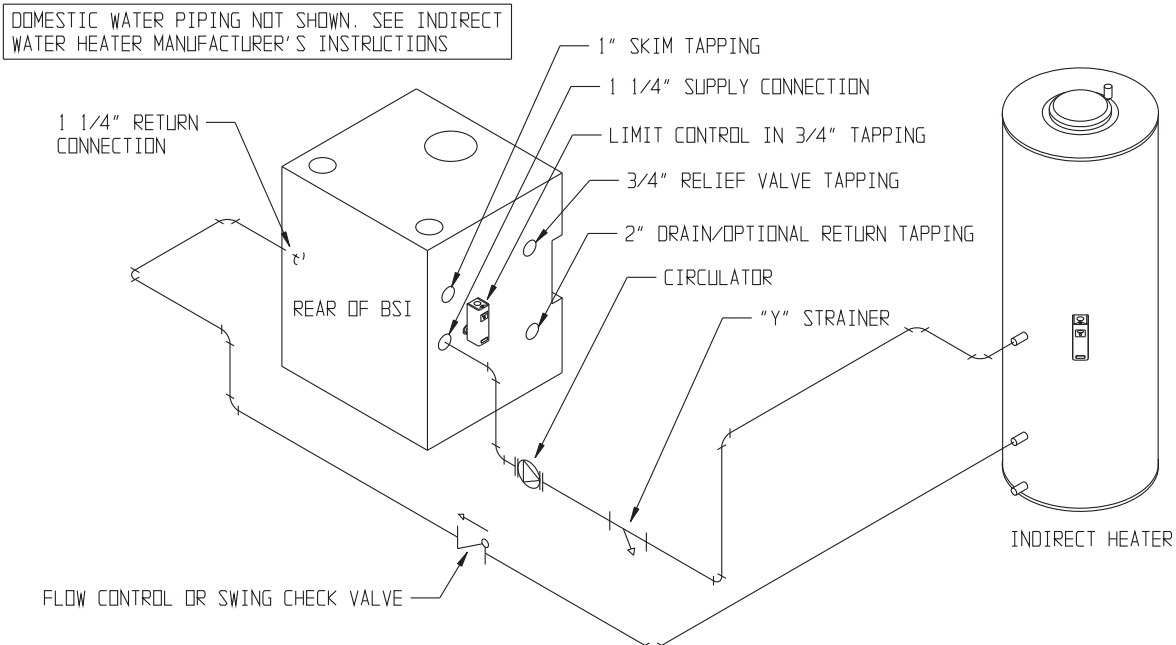
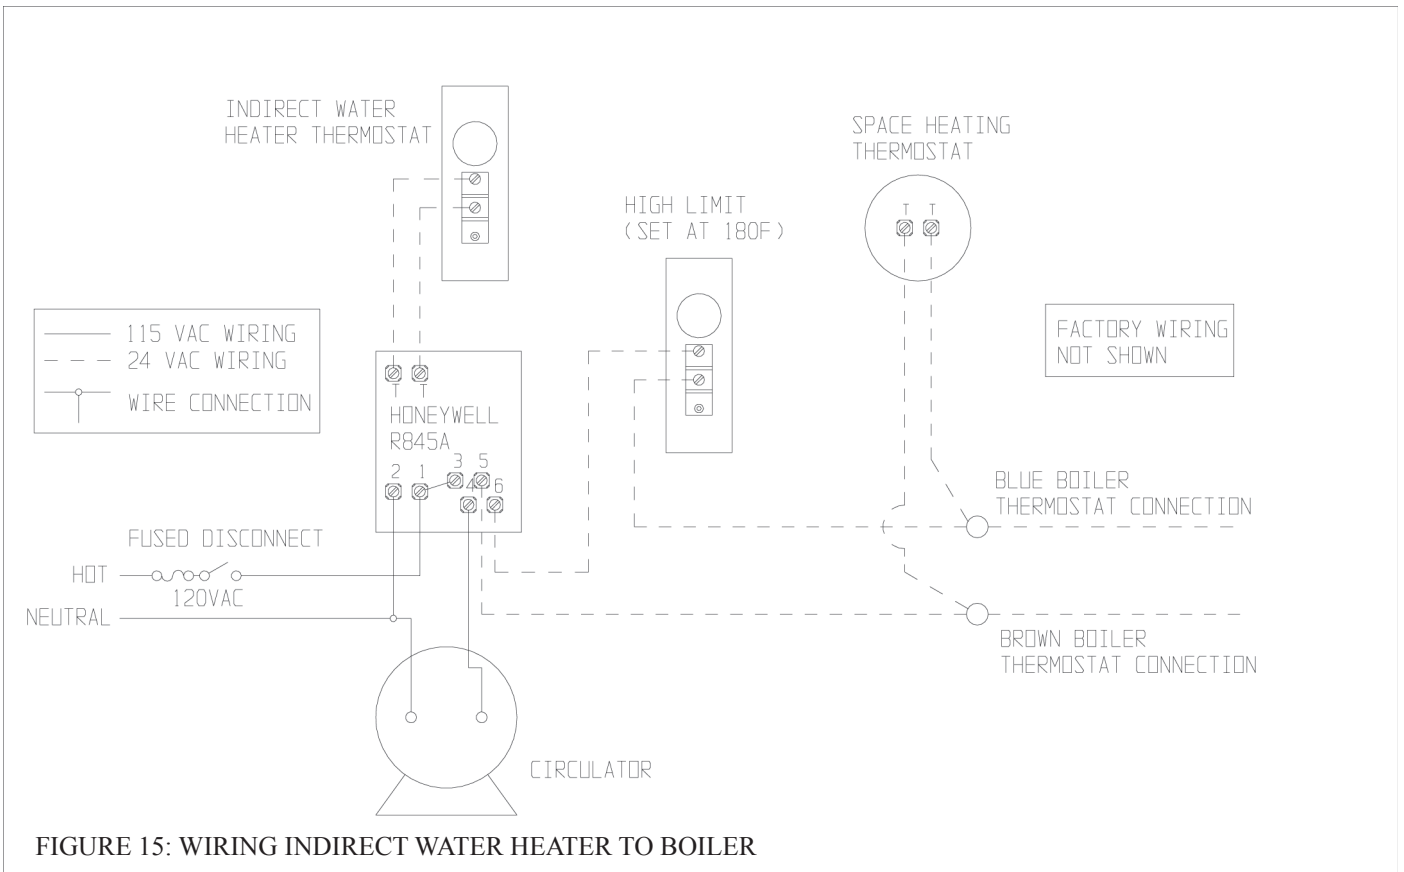

FIGURE 13: INDIRECT WATER HEATER BOILER-SIDE PIPING
FIGURE 15: WIRING INDIRECT WATER HEATER TO BOILER
- 1) Circulator - Mount the circulator as shown in Figure 13. The circulator should be located as low and as close to the boiler as practical. Do not install valves, or other devices having a significant pressure drop, between the boiler and the circulator inlet. All piping between the boiler and the circulator inlet should be 1", regardless of the size of the piping required in the rest of the system. See Figure 15 in Part X for wiring information.
- 4) Boiler Limit Control - Use a SPST break-on-rise temperature limit control such as the Honeywell L4006A. Do not set the limit above 180F as doing so may cause the boiler to steam when there is no call for heat. See Figure 15 for wiring information.
Figure 15 shows field wiring for an indirect water heater. A Honeywell R845A or equivalent DPST relay and transformer is required. The high limit described in Part IX must also be supplied by the installer. A call for heat from the indirect water heater thermostat will energize the relay making both sets of contacts. One set of these contacts then energizes the circulator. The other set of contacts will make the "T" and "T" contacts on the burner primary control, firing the burner. If the boiler water temperature exceeds the high limit setting of 180F, the high limit will open the "T" - "T" circuit and the burner will shut down.